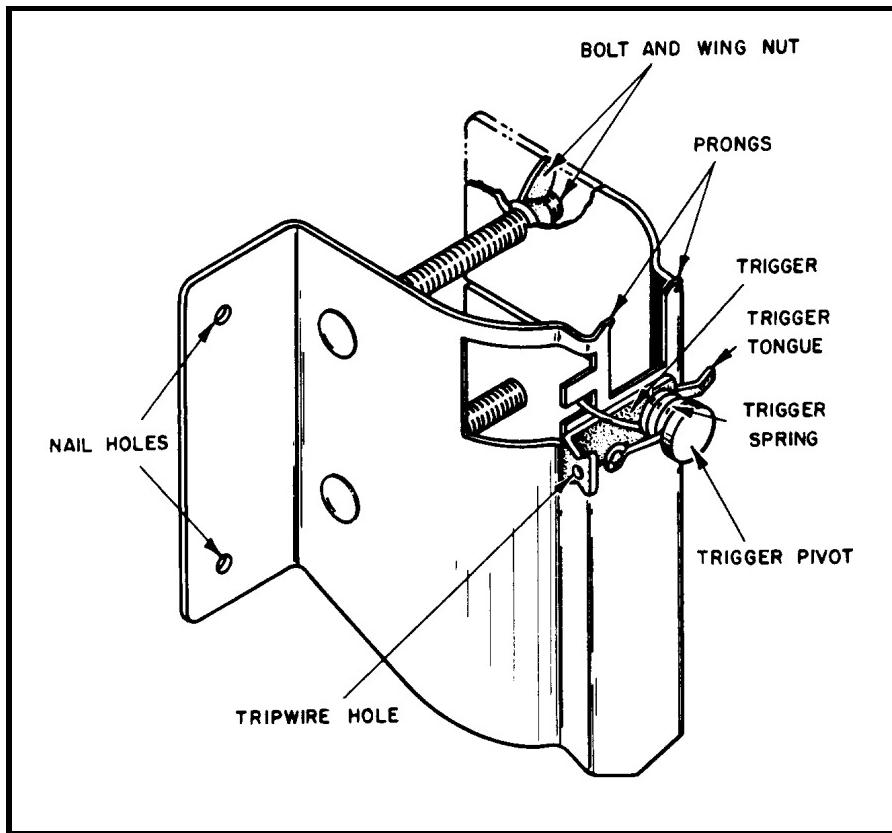

Figure 6-3      Bracket Assembly
4. Mounting Bracket Assembly. The mounting bracket assembly consists of a U-shaped steel bracket, two carriage bolts with wing nuts, and a trigger assembly. (See Figure 6-3).